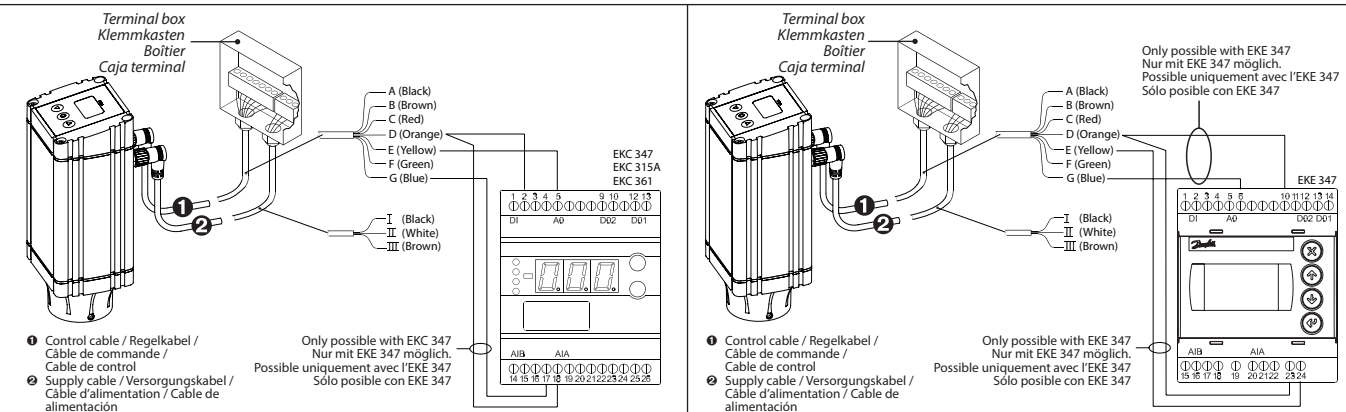

Fig. 7
7 x 0.25 mm² (7 x ~24 AWG) (fig. 7)
- **Analog operation** - 7 wired cable (A-G) Modulation control. ICM valve to be controlled from Danfoss electronics, type EKC/EKE (fig. 7), or third party electronics (like e.g. PLC).
- Connect analog input signals. Current (mA) or Voltage (V). See **Parameter list** for configuration of analog input signals.
- Green (+) and Orange (GND) are used for Voltage (V) input.